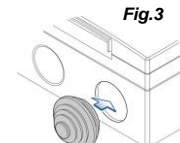

Fig.3
- Drill holes for the glands at the desired spot. If the gland that comes with the enclosure is used, the diameter of the opening must be as a weakened part on the box. Simply press gland into the hole (Fig.3) and set it not to be deformed from the inside.